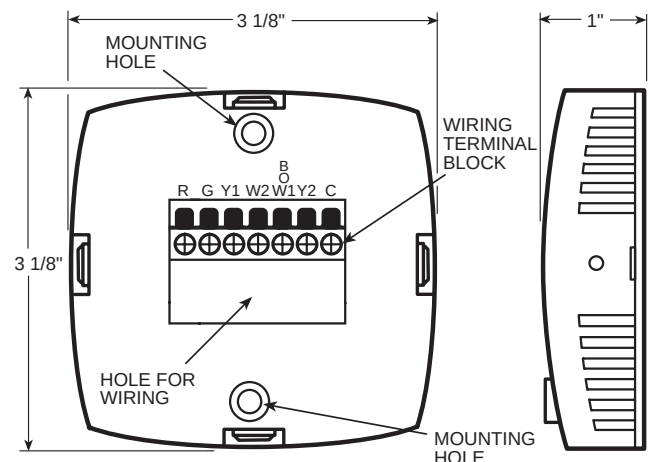

Fig. 1 — Thermostat Mounting and Wiring
3. Remove the thermostat cover from wall plate (mounting base) to expose mounting holes. See Fig. 1.